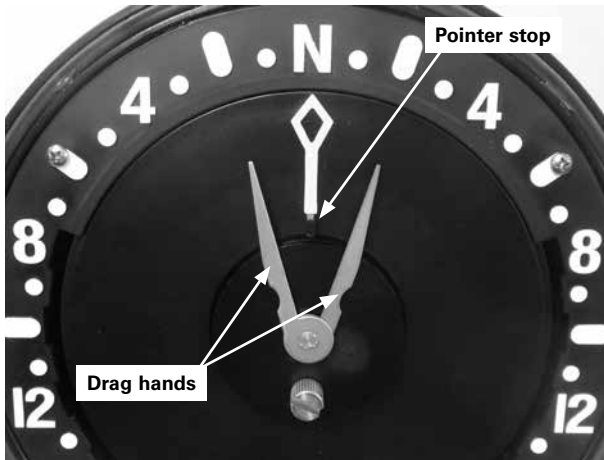

Figure 13. Drag-hand positioning
- Open up the drag hands on the module so that the drag hands will fall on the proper sides of the pointer stop when it is installed, as shown in Figure 13. Note the position of the arc-shaped cutouts in the drag-hands shown in the figure.